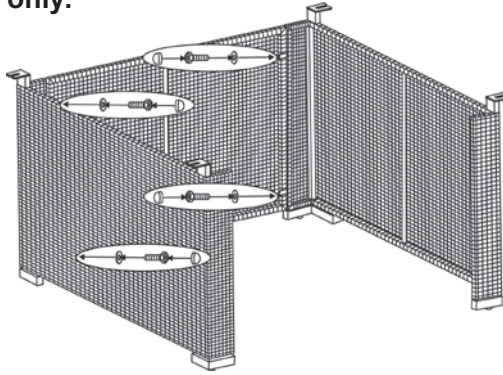

Figure 2
2. Attach the back panel to side panels by using four 1/4"x40 mm bolts and washers (L) as shown in Figure 2. Guide bolts through holes in back panel, into pre-drilled holes in the side panels. **Hand tighten only.**